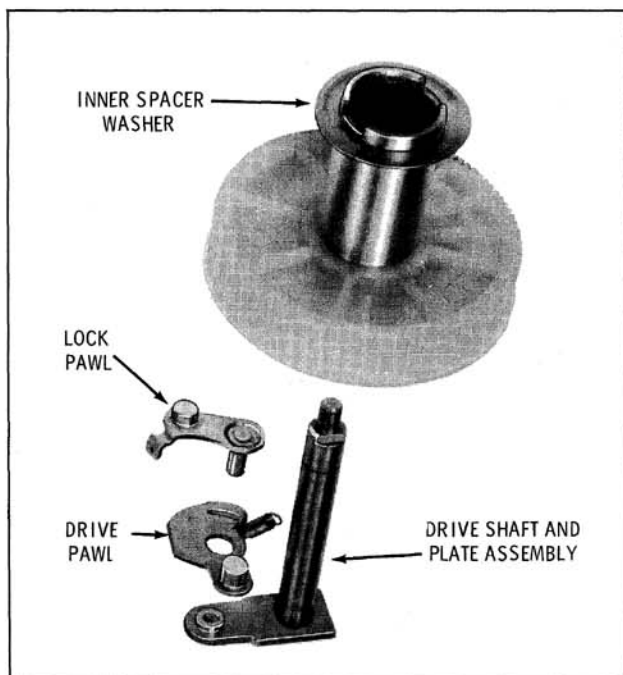

Fig. 13-190 Gear Removal
3. Slide drive plate and shaft out of gear and remove the drive pawl, lock pawl and coil spring as required. (Fig. 13-190)